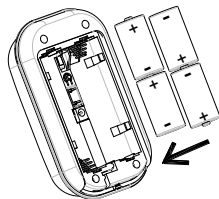

FIGURE 3
2. Insert 4-LR14 1.5V size alkaline batteries to the battery compartment, ensuring correct polarity is put (FIGURE 3).